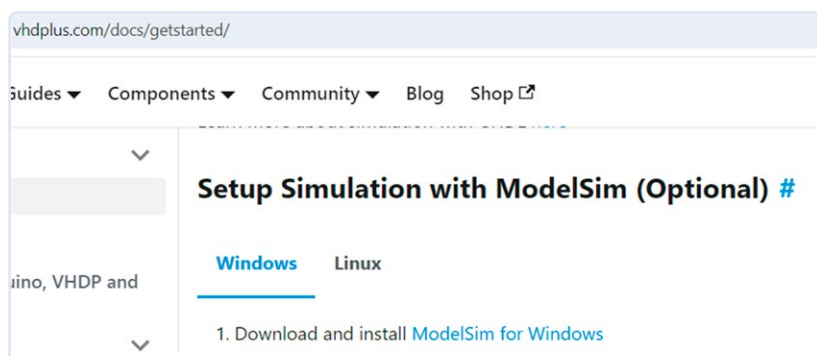

Figure 3: Download the ModelSim simulator.
- Scroll down and click to download ModelSim for Windows (Figure 3). The file will be saved in your Downloads folder.